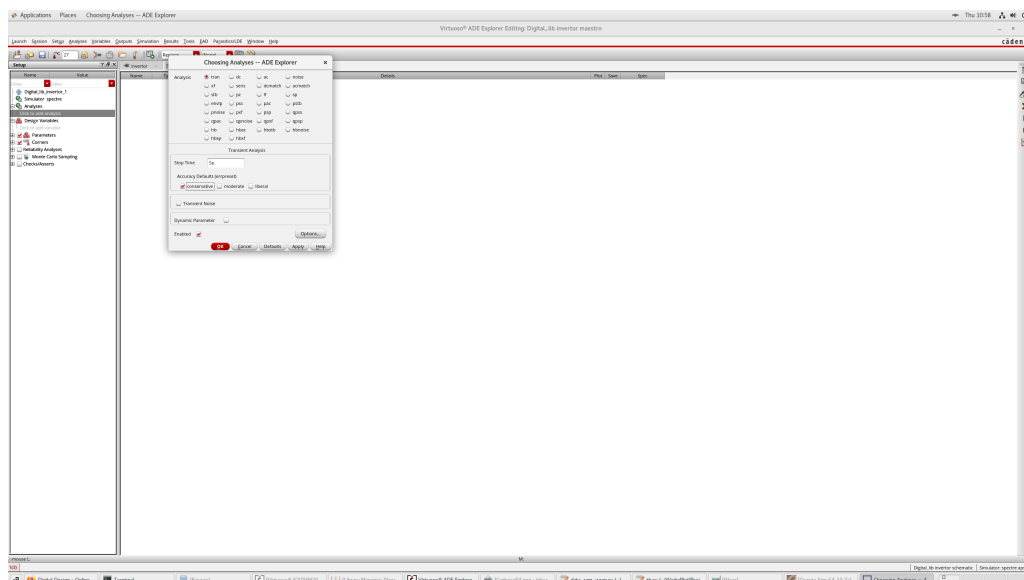

Figure 7: Adding analysis
6. To perform the simulation, first **add an analysis**. Click on the "click to add analysis" and choose "tran" analysis. Enter some time for simulation (in the example 5 nano seconds). Useful units: "n" for nano, "f" for femto, "u" for micro. Change the accuracy to "conservative" and make sure the "enable" button on the bottom left is checked. If finished, leave everything else as default and click "ok". (Figure 7)